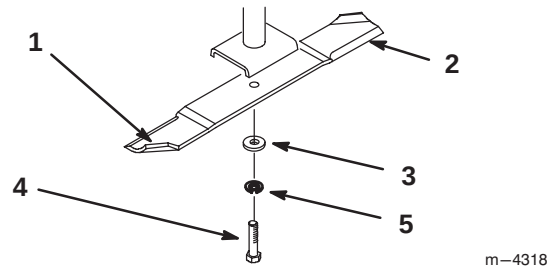

Figure 31
Hold the blade end using a rag or thickly-padded glove. Remove the blade bolt, flat washer, split lockwasher and blade from the spindle shaft (Fig. 31).
blade is not balanced, file some metal off the end of the sail area only (Fig. 31). Repeat this procedure until the blade is balanced.
1. Install the blade onto the spindle shaft (Fig. 31).
2. Install the flat washer, lock washer and blade bolt (Fig. 31). Torque the blade bolt to 85–110 ft-lb (115–150 N•m).